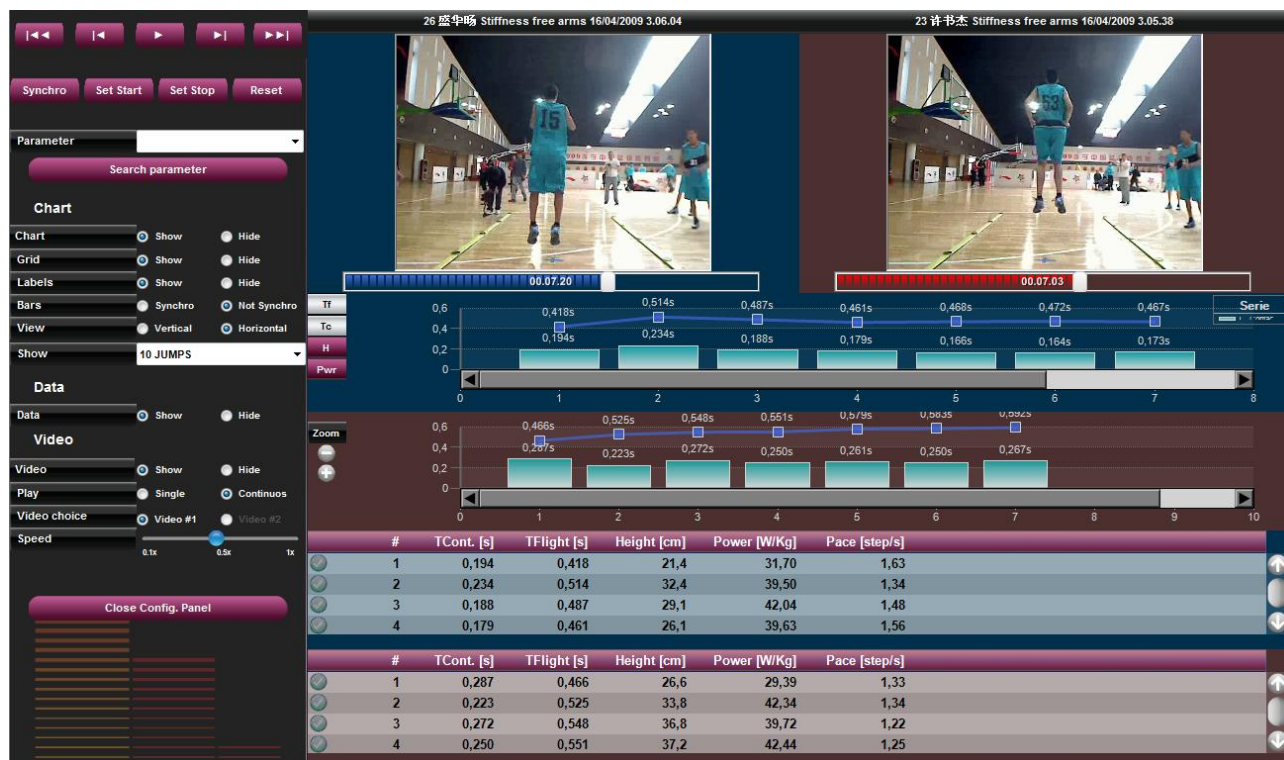

Figure 66 – Compare
- **View:** data can be viewed horizontally (as in Figure 66 – Compare